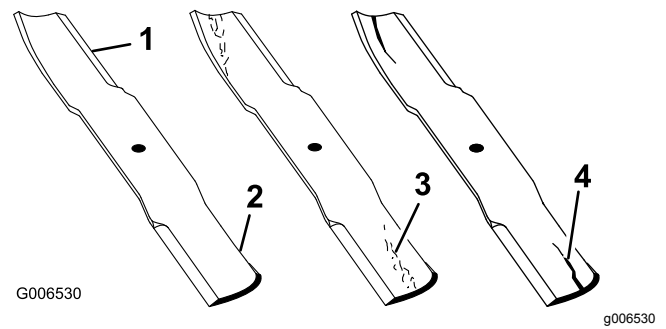

Figure 101
1. Inspect the cutting edges (Figure 101).
4. If you notice any cracks, wear, or a slot forming in this area, immediately install a new blade (Figure 101).